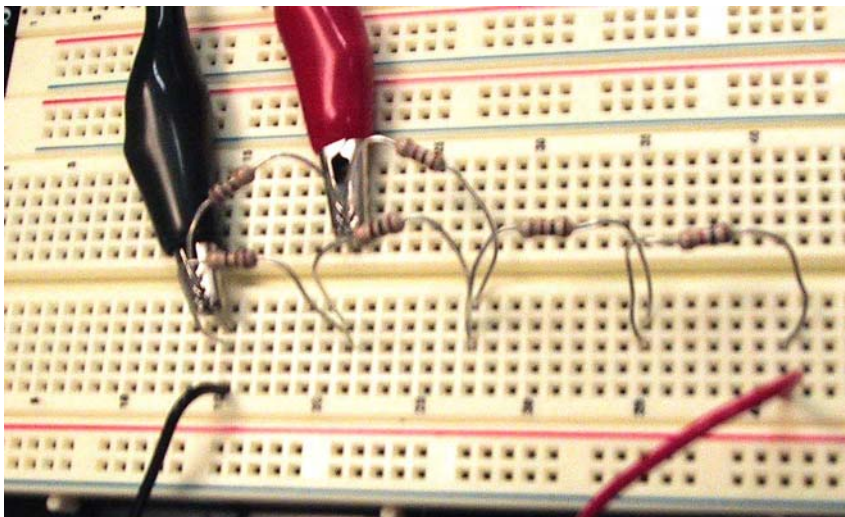

FIGURE 7 – SECOND CIRCUIT WITH CLIP LEADS ATTACHED TO 10 Ω RESISTOR
- 13) Repeat the experiment with the leads attached to one of the 10  $\Omega$  resistors (see Figure 7).